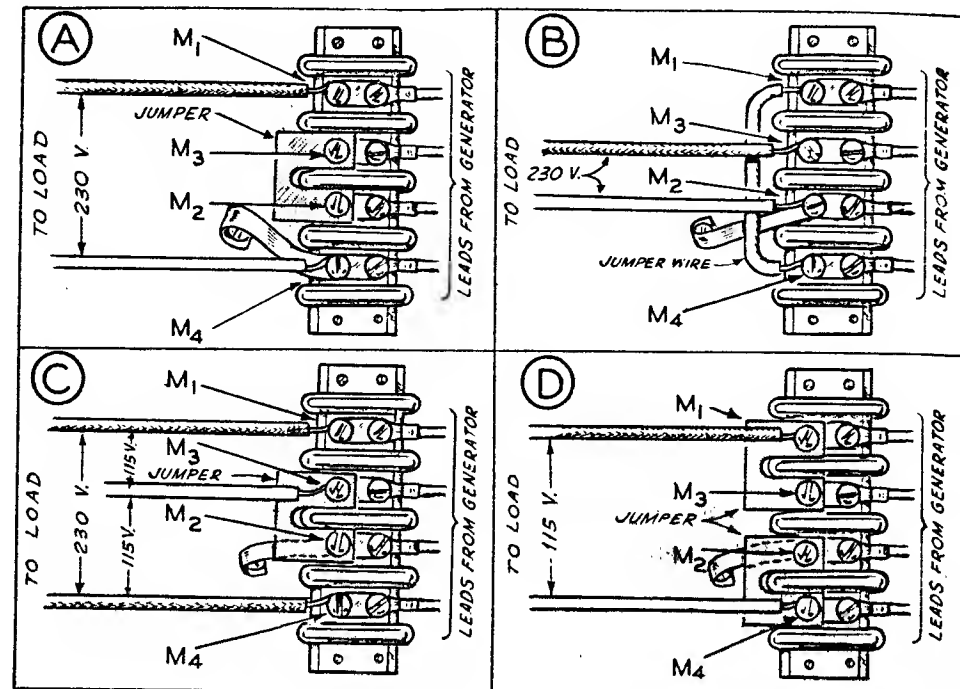

Fig. 8 Single Phase Plant
Load connections are to be made to terminals inside the terminal box on the side of the generator. These load terminals are marked M1, M3, M2, and M4 from top to bottom. When the plant is shipped, two heavy jumper bars are connected across terminals M3 and M2. This jumper connection provides for two 115 volt circuits (with 1/2 the plant capacity available on each separate circuit), or one 230 volt circuit. Refer to C, Fig. 8. For 115 volt service, connect the black (hot) wires to the M1 and M4 terminals, and the white (ground) wire to the M2 or M3 terminal. Remember that ONLY ONE HALF the rated capacity of the plant will be available on either of the two separate 115 volt circuits. The two black wires will give 230 volt ungrounded service.
If the full rated capacity of the plant at 115 volts ON ONE CIRCUIT ONLY, is desired, remove the two jumper bars from across terminals M3 and M2. Reconnect the jumper bars, one across terminals M1 and M3, and the other jumper across terminals M2 and M4. Connect the black (hot) load wire to the M1 terminal, and the white (ground) wire to the M4 terminal. Refer to D, Fig. 8.
If 230 volt current only is to be used, and NEITHER load wire is white (grounded), leave the jumpers connected across terminals M3 and M2. Connect load wires to terminals M1 and M4. Refer to C, Fig. 8.
- A. Remove the two jumper bars connecting terminals M3 and M2, temporarily. Disconnect the short grounding wire from the M2 terminal and connect it to the M4 terminal. Reconnect the jumper bars across terminals M3 and M2. Connect the black (hot) load wire to the M1 terminal, and the white (grounded) load wire to the M4 terminal. Refer to A, Fig. 8.
- B. Remove (and save for possible future use) the two jumper bars connecting terminals M3 and M2. Using a short length of #10 or larger wire, connect terminals M1 and M4 together. Connect the black (hot) load wire to the M3 terminal, and the white (grounded) load wire to the M2 terminal. Refer to B, Fig. 8.
Be sure the jumper connections are properly made, as explained under **VOLTAGE SELECTION, SINGLE PHASE PLANT**. Connect the load wires to the proper terminals as shown, according to the jumper connections made, Fig. 8.
Some early plants with SPEC designation ending in the letter "A" were not internally grounded. If inspection shows that there is no ground jumper wire between the M2 terminal and a grounding screw inside the terminal box (Fig. 8), a similar ground connection must be made. Run a short length of No. 10 wire between the battery negative terminal and the M2 terminal, if 115/230 volt service is to be used. If grounded 230 volt service is to be used, connect the ground jumper to the M4 terminal, instead of to the M2 terminal. **BE SURE THIS GROUND JUMPER WIRE IS PRESENT IN ALL CASES WHERE USING AUTOMATIC CONTROL EQUIPMENT.**